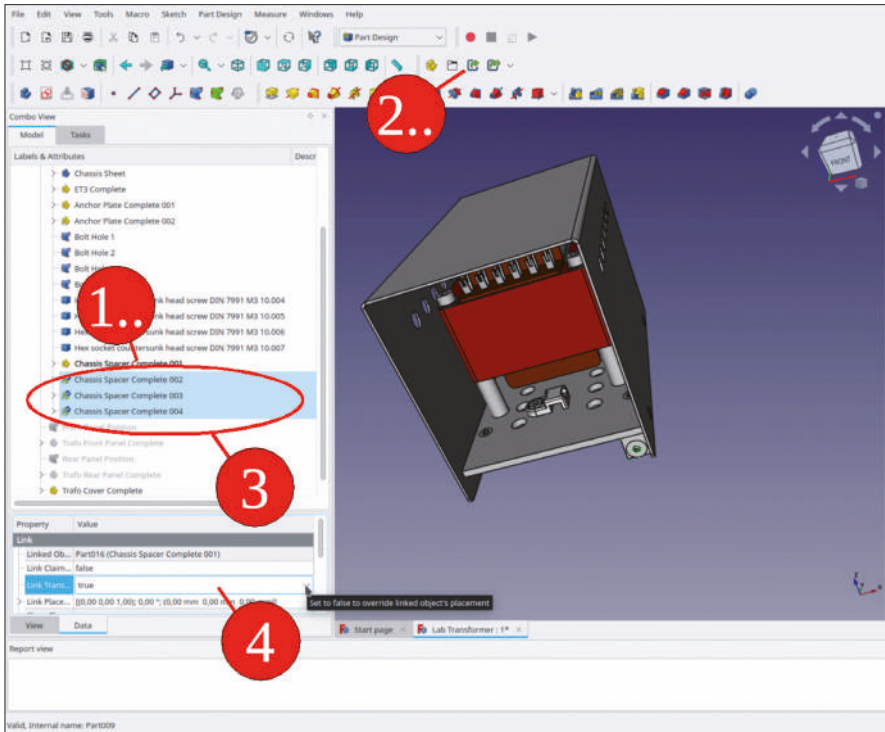

Figure 9-157
19. Drag-and-drop the link objects into the Std-Part-Container 'Trafo Chassis Complete' (Figure 9-157).